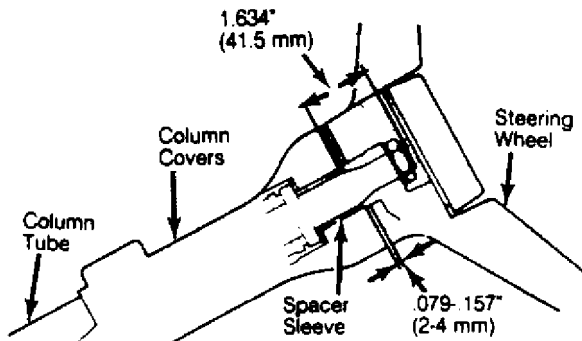

Fig. 2: Installing Spacer Sleeve
Remove steering wheel. See STEERING WHEEL & HORN PAD. Remove retaining screws. Unplug harness connector. Remove turn signal switch. To install, reverse removal procedure. After installation, gap between turn signal switch and steering wheel should be 1/16 - 3/16" (2 - 4 mm). See Fig. 2.
Reverse removal procedure to install ignition switch. Drive spacer onto column using Tube (VW 420). Spacer upper end-to-shaft end distance must be 2" (51 mm). See Fig. 2.
3) Ensure distance from top of spacer sleeve to top of upper steering shaft (with steering wheel and nut installed) is 2" (51 mm). Gap between turn signal switch and steering wheel should be 1/16 - 3/16" (2-4 mm). See Fig. 2.